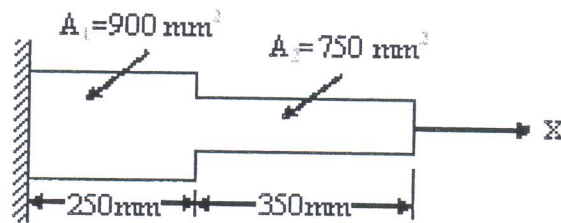

Figure.6
- b) Consider axial vibration of the steel bar shown in Figure.6,